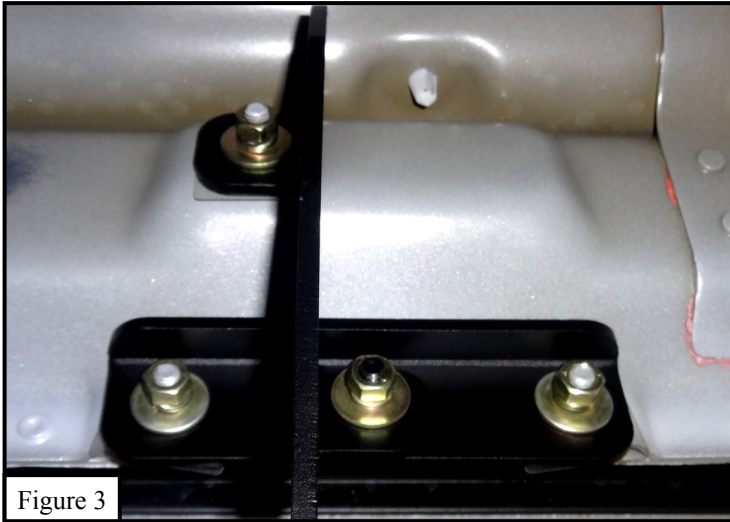
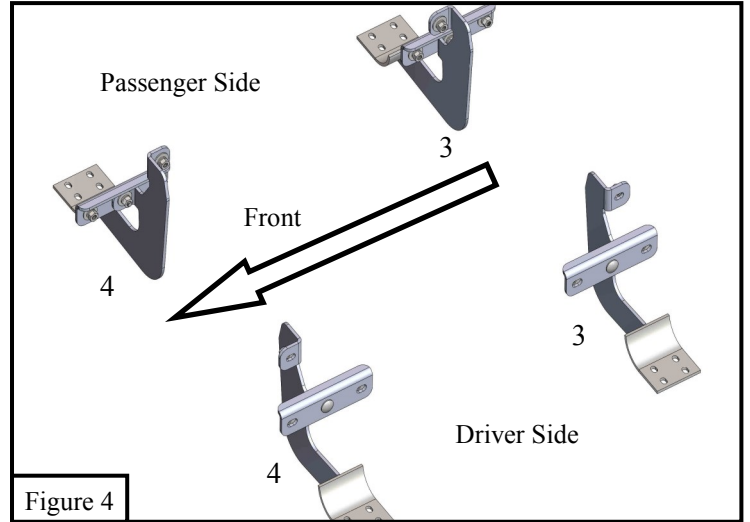

Figure 3
Figure 4
5. Install mounting brackets at the rocker panel (**Figure 3**) using the hardware on **Figure 2**. And follow **Figure 4** for placement brackets order. *Do not fully tighten at this time.*